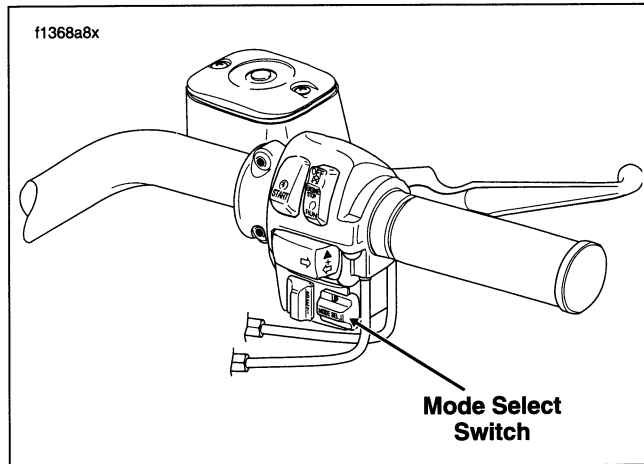

Figure 46. Right Handlebar Switch Assembly
3. See Figure 46. To ramp the AVC up, press the Mode Select Switch on the right handlebar in an upward direction (UP). To ramp the AVC down, press the switch in a downward direction (DN). Although the factory presets the volume level at number "2," it is adjustable from "0" (AVC least aggressive) to "4" (AVC most aggressive). Any adjustment affects the AVC schedules of external speakers.